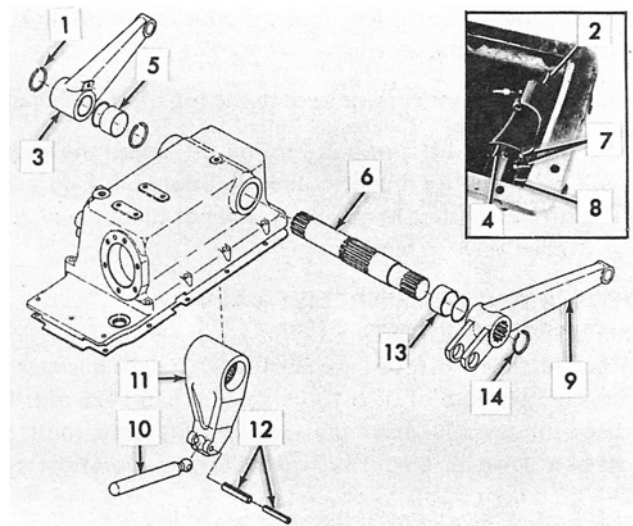

Figure 11
2. Remove the lift arm retaining snap ring and lift arms from the lift shaft, refer to Figure 11.
1. Insert the lift shaft through the hydraulic lift cover and through the ram arm, refer to Figure 11. Install the snap ring on the lift shaft to secure the ram arm in position.